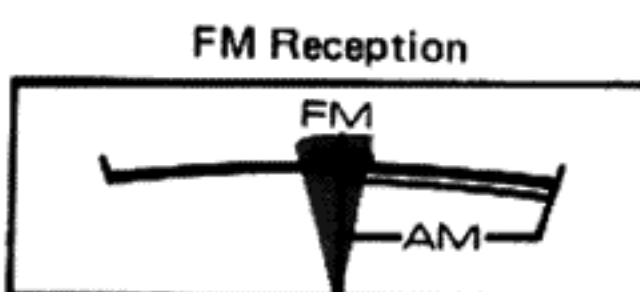

Fig. 9
3. Select the station by means of the TUNING knob. Best reception is obtained when the AM/FM TUNING meter needle is exactly in the center (see Fig. 9).